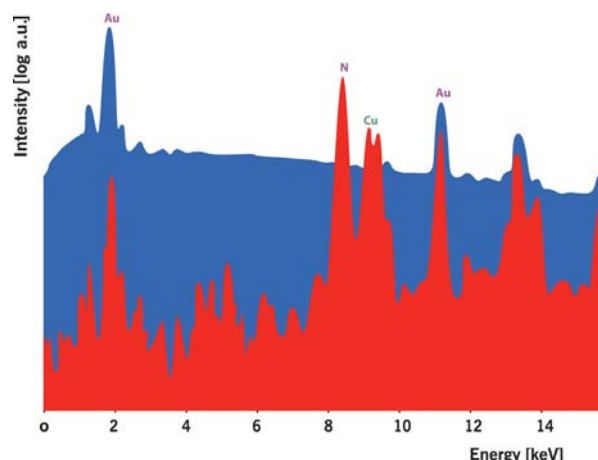

Figure 1: X-ray excitation (red) does not suffer the bremsstrahlung background of electron excitation (blue), enabling much higher sensitivity
In general, LLDs of x-ray fluorescence are 1-2 orders of magnitude better than EPMA [1] because x-ray induced fluorescence does not suffer the Bremsstrahlung background radiation in the same way that electron excitation does (Fig. 1). With the AttoMap-310, this advantage is even further increased because of the AttoMap's patented multi-spectral x-ray source, which tunes the incident x-ray energy to maximize the fluorescence cross-section [ref. 2].